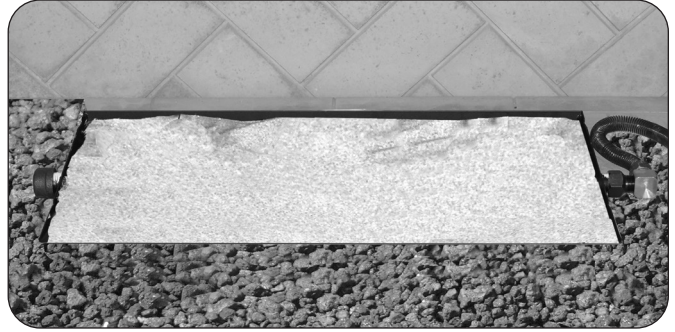

Fig. 12-1 Place sand
1. Fill the burner pan completely with the sand (see Fig. 12-1).